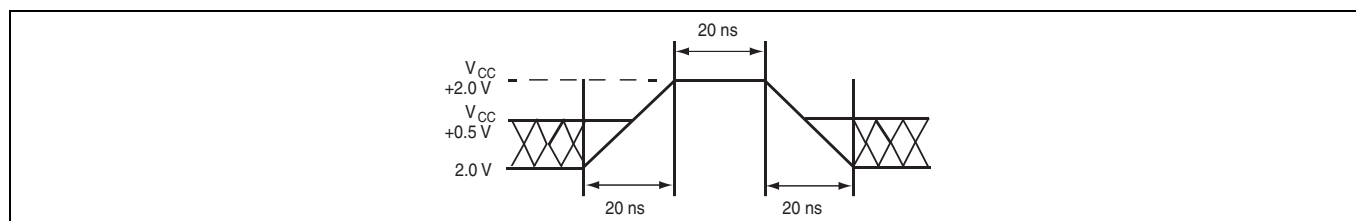

Figure 6-2 Maximum Positive Overshoot Waveform
2. Minimum DC input voltage on pins ACC, A9, OE#, and RESET# is –0.5V. During voltage transitions, A9, OE#, and RESET# may overshoot V_{SS} to –2.0V for periods of up to 20 ns. See Figure 6-2. Maximum DC input voltage on pin A9 and OE# is +13.0V which may overshoot to 13.7V for periods up to 20 ns.